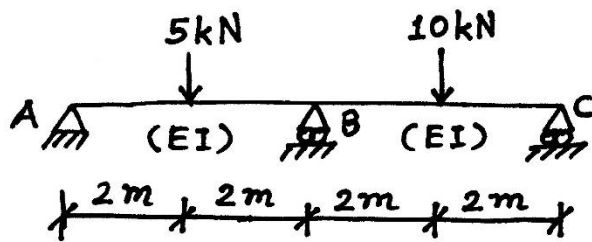

Fig. 1
(c) Determine joint displacements for the beam shown in fig.1. Take  $EI =$  constant. **07**
- (c) Determine joint displacements for the loaded beam shown in fig.1, if the support B sinks by 10mm. Take  $EI = 30000 \text{ kNm}^2$ . **07**